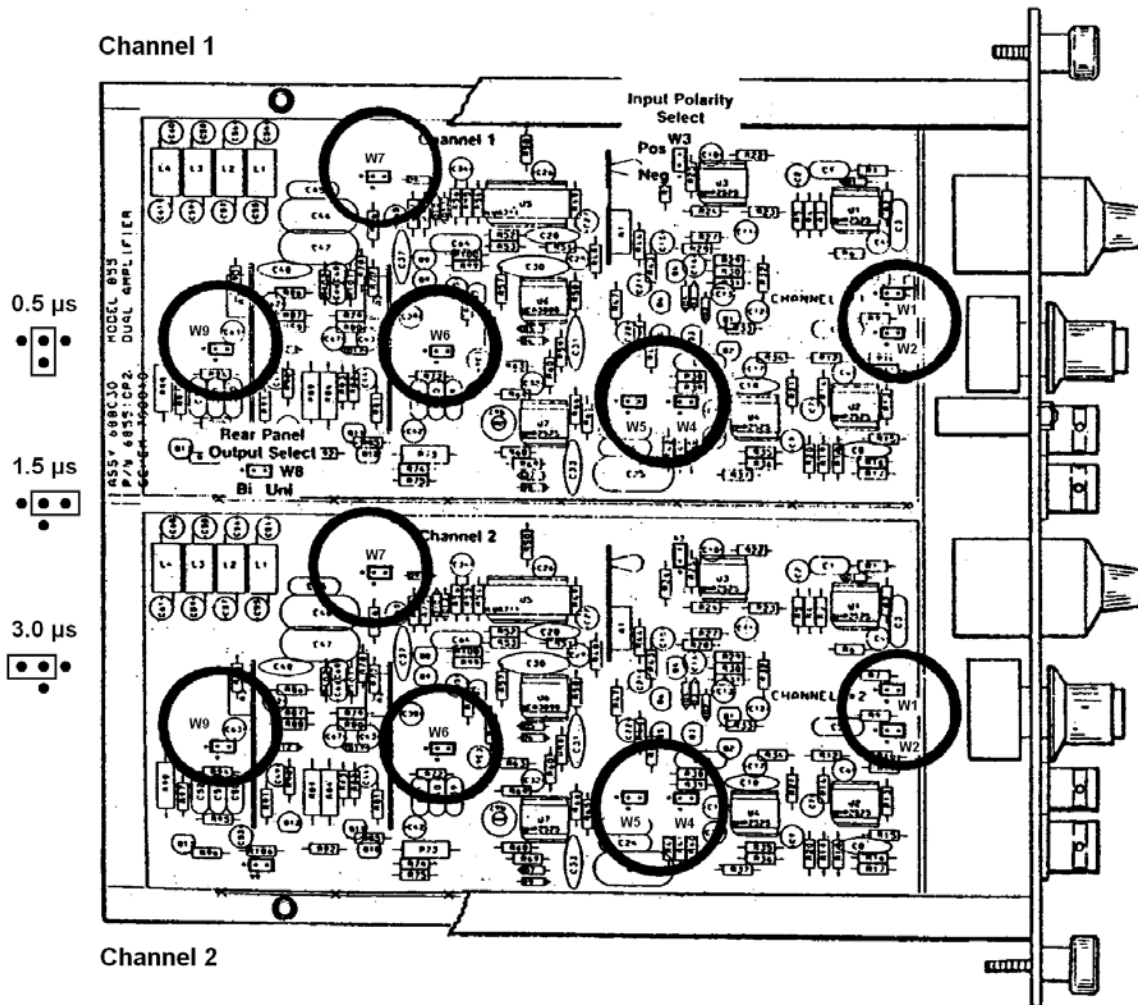

Fig. 4.2. Set Jumpers W1, W2, W4–W7, and W9 as Shown, in Both Channel 1 and Channel 2, to Select Desired Time Constant (figure shows setting of 1.5  $\mu$ s).
**SHAPING** PWB jumpers select equal integration and differentiation time constants to shape the input pulses. Settings are 0.5, 1.5, and 3  $\mu\text{s}$ . Illustrated drawings and instructions for setting time-constant jumpers are shown in Fig. 4.2.